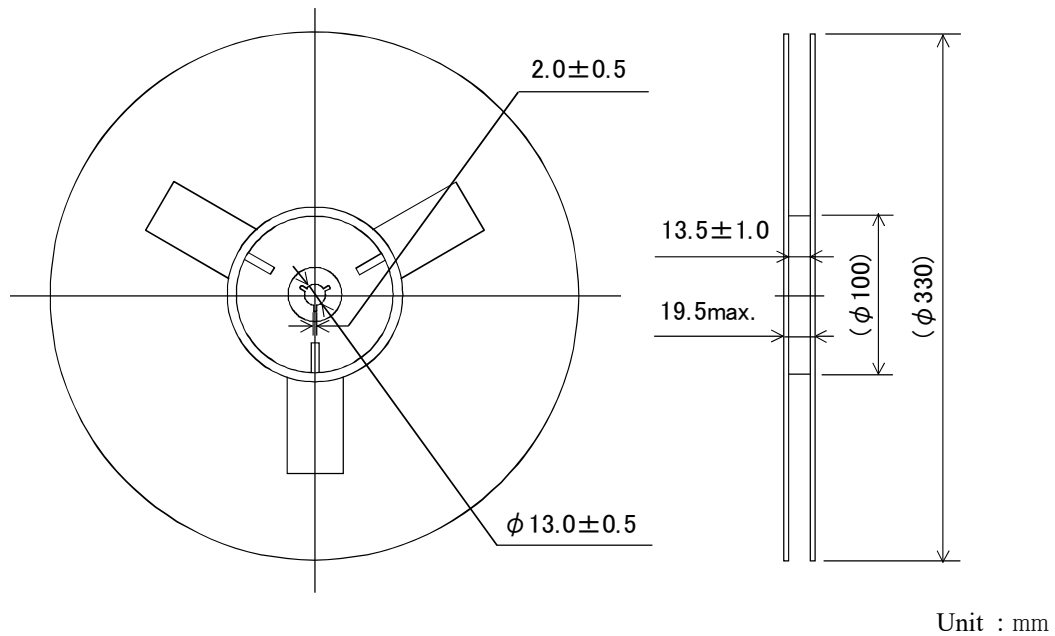

Figure 2
8.2 Dimensions of Plastic Tape See Figure. 2.
- 6) The orientation is ruled as Figure. 2 shows.